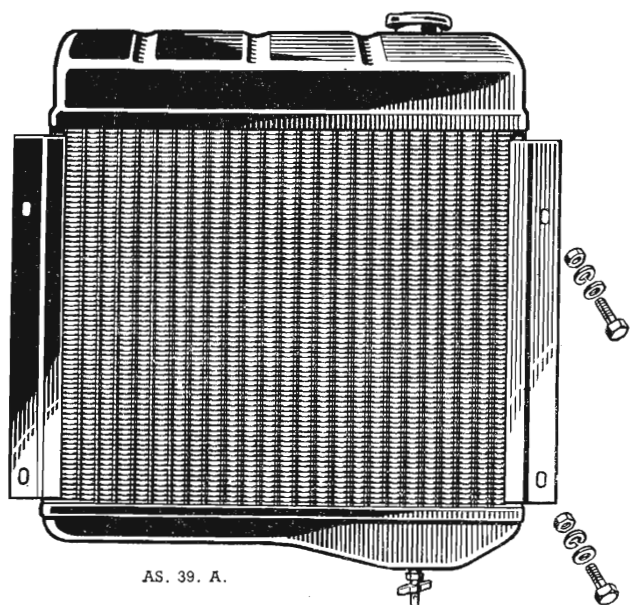

Fig. C.3. Illustrating the positions of the four radiator securing setpins.
- (1) Drain the cooling system.
- (2) Slacken the hose clip, on the upper water hose, at the thermostat housing and with the aid of a screwdriver ease the pipe off the housing extension.
- (3) Take off the radiator bottom hose by releasing the clips on the water pump and water outlet pipe if a heater is fitted.
- (4) Remove the four nuts (two on each side) which secure the radiator to the mounting flanges and remove the radiator (see Fig. C.3.).
- (5) Inspect the radiator core for damage and test it for water leaks. Solder at the points where leakage occurs or renew the core if necessary.
- (6) Inspect the drain tap for leaks and renew it if necessary.
- (7) Test the filler cap.
- (8) Inspect the hose connections for deterioration and renew them if necessary.